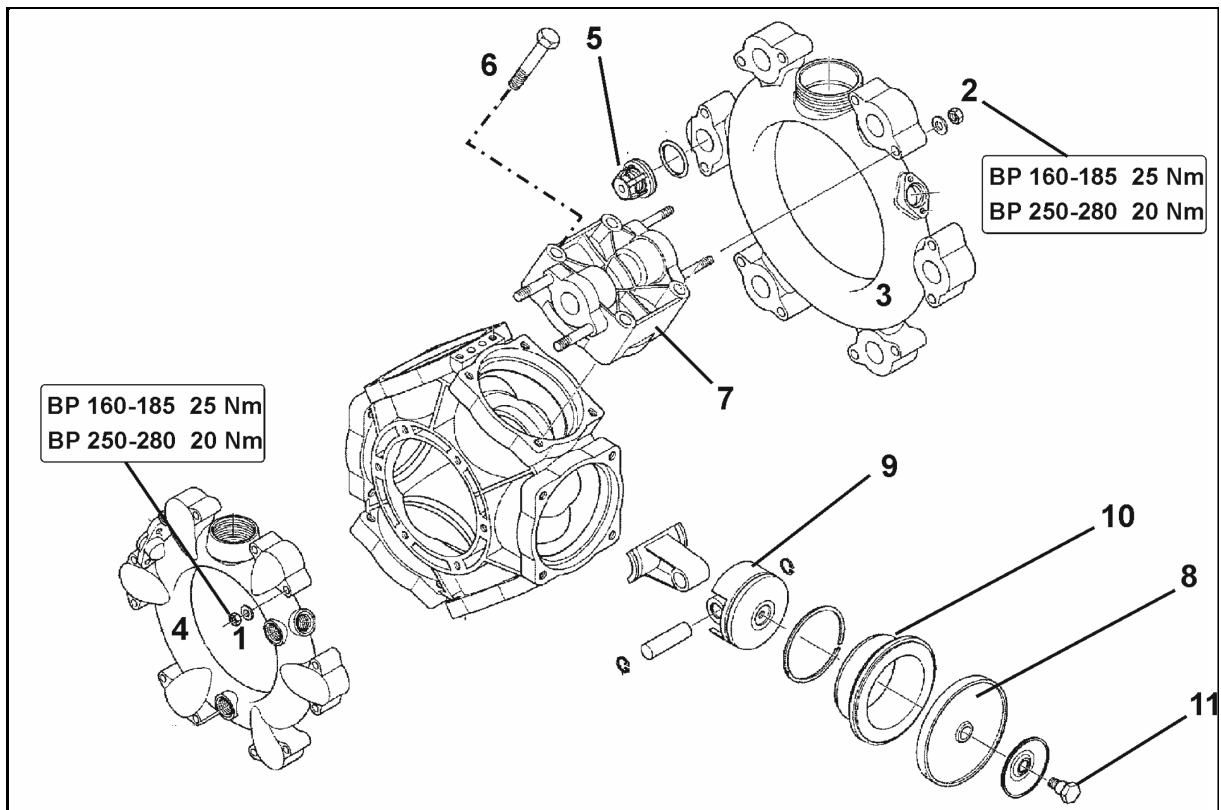

Fig. 141
- At least once a year, check that the piston diaphragm (8) is in perfect condition by removing it.
- Pay attention to the respective installation positions of the valves on the suction and pressure sides before removing the valve groups (Fig. 141/5).
- As a rule, replace all piston diaphragms (Fig. 141/8), even if only one piston diaphragm distorted, punctured or porous.
2. Remove nuts (Fig. 141/1, 2).
3. Remove the suction and pressure port (Fig. 141/3 and Fig. 141/4).
4. Remove the valve groups (Fig. 141/5).
5. Remove the nuts (Fig. 141/6).
6. Remove the cylinder head gasket (Fig. 141/7).
7. Check the piston diaphragm (Fig. 141/8).